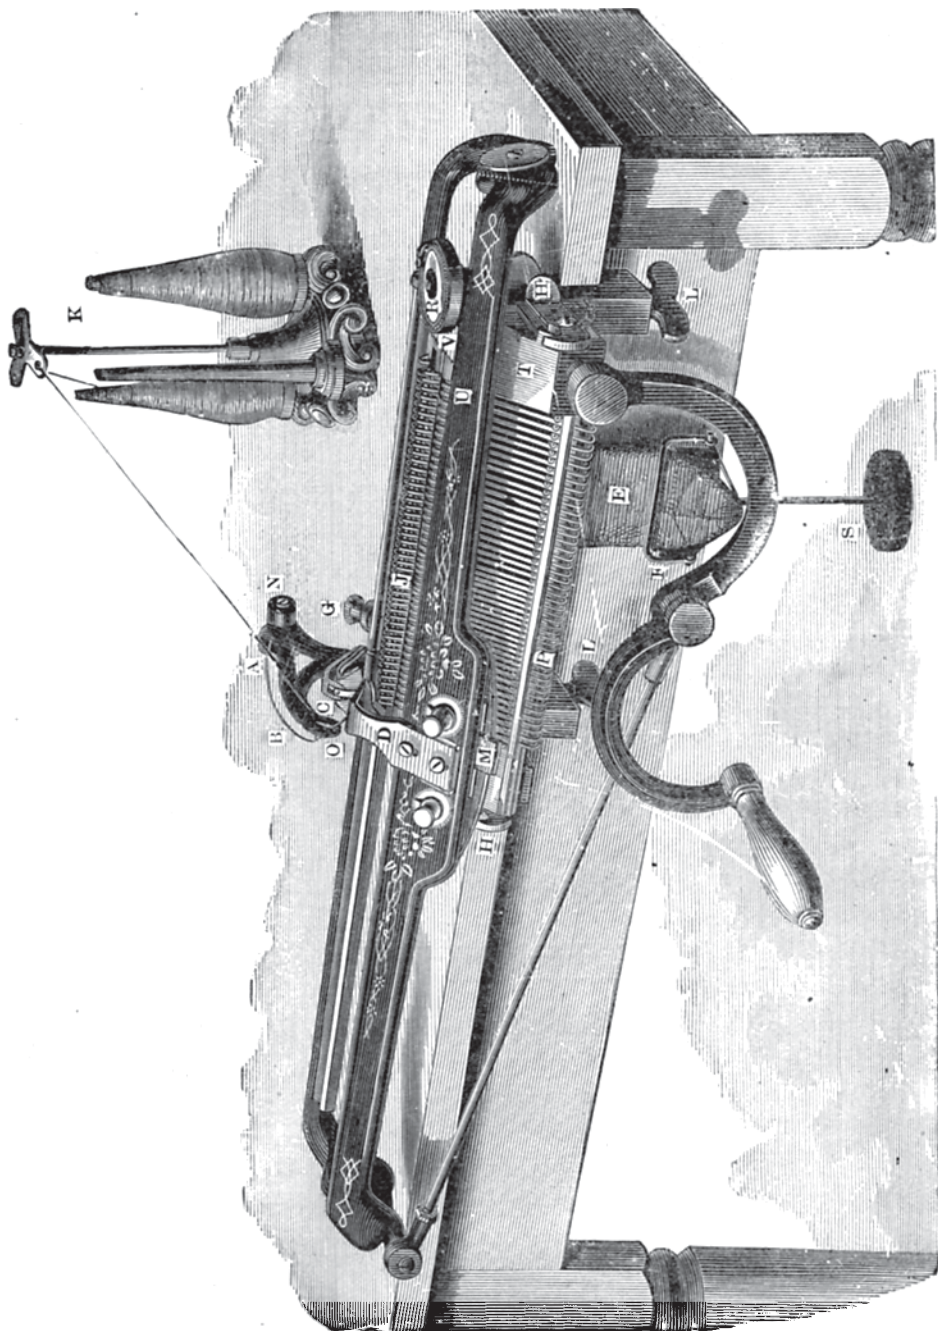
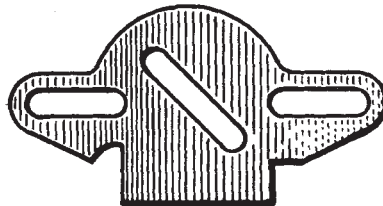

Fig. 98. Lamb Knitting Machine.
Fig. 106. Lock Plate A, Slide Plate B.
The machine illustrated at Fig. 98, is constructed upon the novel principle of employing two straight, parallel rows of needles sufficiently near each other to connect the two rows of knitting at either end, but far enough apart to allow the fabric to pass down between them as it is knitted.
Referring to Fig. 98, the parts are as follows: A, tension nut; B, take-up spring; C, yarn guide; D, latch opener; E, work; F, buckle; G, hands, eccentric levers and thumb nuts; H, H, stops; J, jack wires or bitts; K, spool stand; L, thumb screws; M, slide plate; N, take-up stand; O, V-eyelet; P, needle stops; R, counter; S, weight hook; T, needle bed; U, carriage; V, caps.
**Cam Stops.** The Cam Stops H, H are (see C, Figs. 98 and 105) the four short bars at each corner of the needle bed that act on the slide plate M, (also B in Fig. 106) extending below the carriage, and open and shut the cams.
**Latch Openers.** The steel plates fastened to the carriage, with upper ends hooked and having knife edges, are called the latch openers (See D, Fig. 98, also Fig. 105). Their function is to open or guard the latches of the needles, so as to admit the yarn into the hooks, and also to hold the latches down, out of the way of the yarn guide.
**The Counter.** The counter R (Fig. 98) is for the purpose of relieving the operator from counting while working. Turn the dial
**Position of the Needles.** To place a needle in working position, move it upward until the hook is between the jack wires, or bitts J, Fig. 98. To move it out of position, draw it down half an inch, or
**Adjusting the Tension.** The tension nut A (Fig. 98) on the take-up stand, governs the wire take-up, B. To increase the tension turn the nut from you. To decrease it turn the nut toward you. In knitting stockings medium size, adjust the nut so that take-up wire stands about perpendicular. On double webs full width, diminish the tension so that the end of take-up wire is about *two inches* above the eye in the stand. The fewer needles in use, the more tension required, and coarse yarn requires more tension than fine yarn.